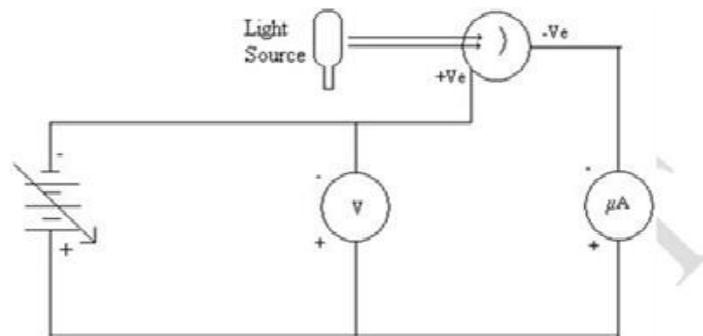

Figure 1
1. Make the connections as shown in fig 1. Switch light source to 100 Watt mode.